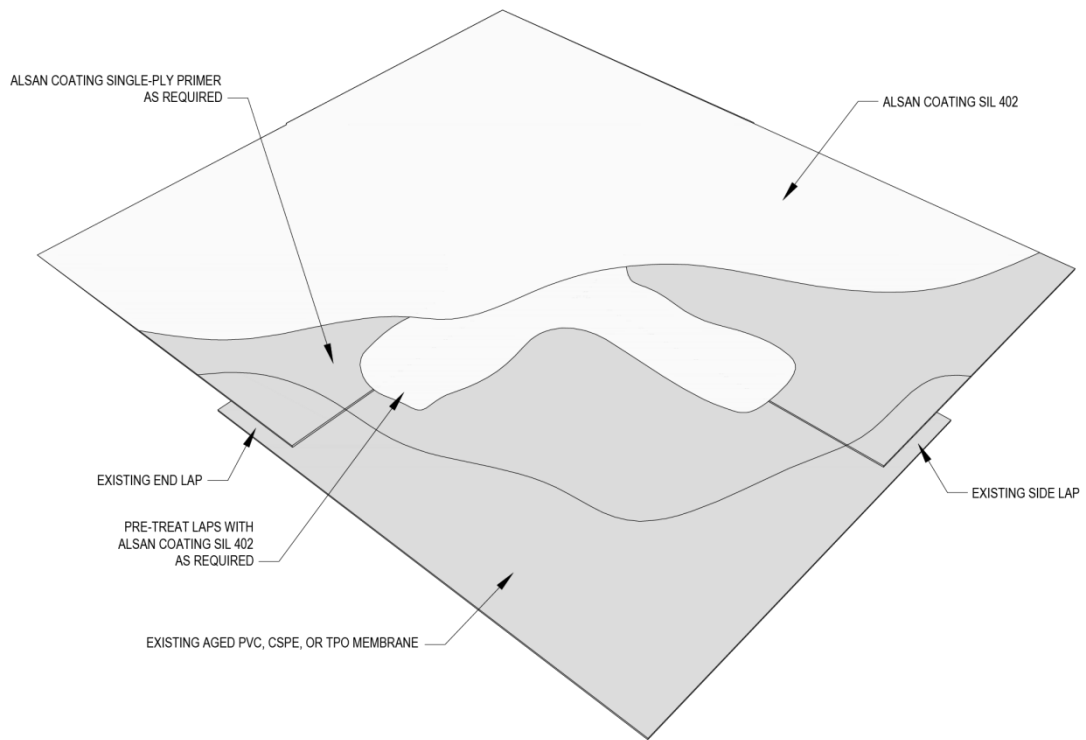

Figure 2.1i Silicone Roof Coating Over Aged TPO/CSPE/PVC, Side/End Laps
- Refer to flashing detail guidelines indicated in Figures 2.1i through 2.1l.